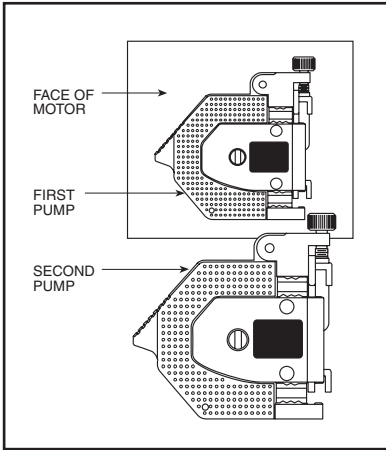

Figure 3-5. Placing the Second Pump on Top of the First Pump
Refer to Figures 3-5 through 3-7 and Figure B.
2. Refer to Figure 3-5 and Figure B. Make sure the second pump is in the closed position.